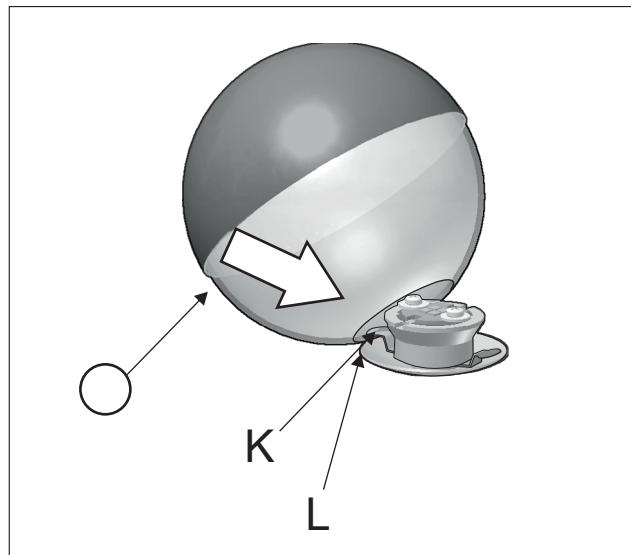

Figure 8
- 8- Incline the screen (H) about 45° and insert it into one of the extremes of the clip (K) of the LED and the base of the screen (L). Figure 8.